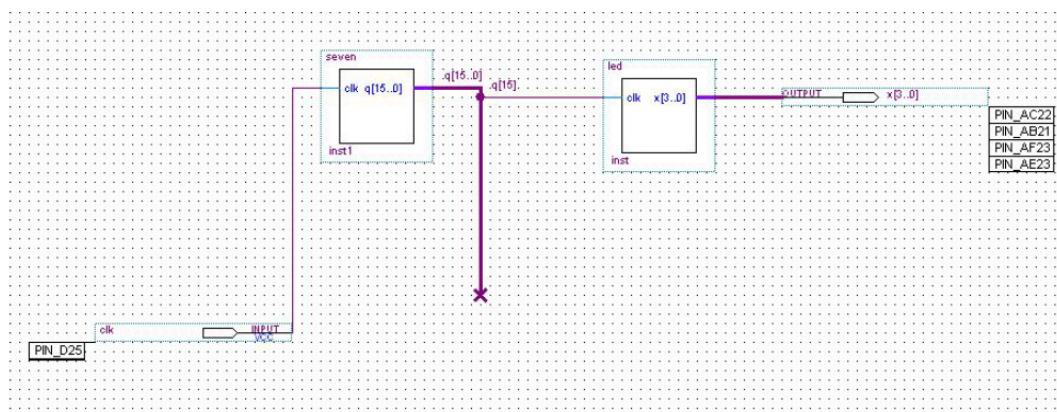

Figure 3.6: Schematic diagram for the 16-bit binary counter with frequency divider.
5. Draw the schematic in Figure 3.6, connecting the seven block's most significant output bit `q[16]` to the clock input of the led block.